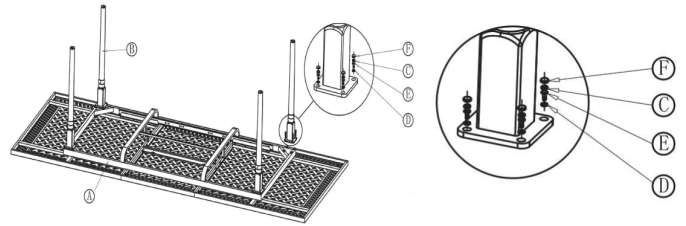

Figure1
Step 1. Carefully place the table top frame (A) upside down on a non-abrasive surface. Assemble the table legs (B) to the table top (A) with Hex Head bolts (C), M6 Spring Washer (E) and washers (D) by Wrench (G), then cover the bolts with bolt cap (F) as show in Figure1.